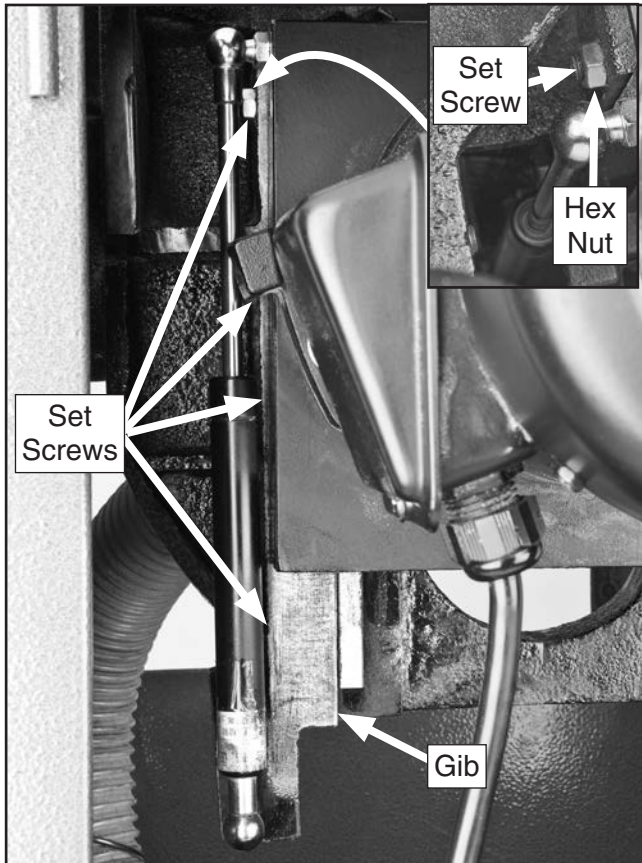

Figure 139. Elevation slide gib components.
Tension is applied to the gib by the four adjustment set screws shown in **Figure 139**.
2. Loosen the hex nuts securing the four adjustment set screws shown in **Figure 139**, then back off each set screw one full turn to release the pressure on the gib.